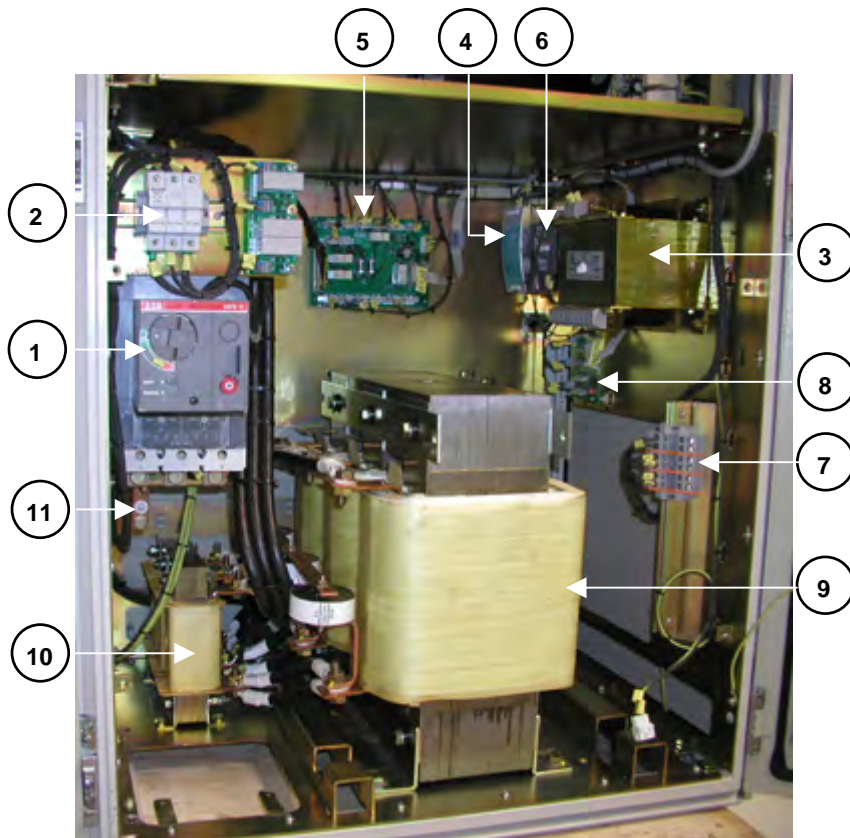

Figure 5.8. PQFI bottom part component identification (CE version)
Figure 5.8. shows a picture of the PQFI bottom part in CE version.
Remarks: ^(a) For physical locations of customer CT connection terminals, please refer to Figure 5.8. item 7.